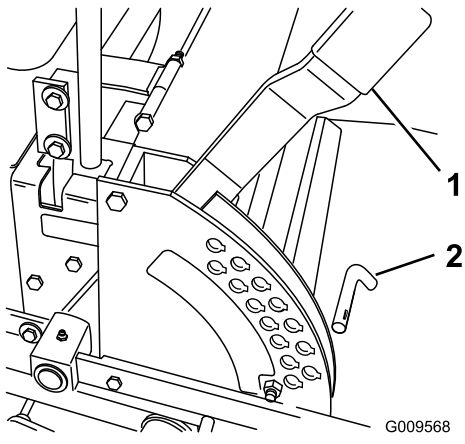

Figure 18
1. Raise the height-of-cut lever to the TRANSPORT position (also the 127 mm (5 inch) cutting-height position) (Figure 18).
2. To adjust, remove the pin from the height-of-cut bracket (Figure 18).
3. Select a hole in the height-of-cut bracket corresponding to the height-of-cut desired and, insert the pin (Figure 18).